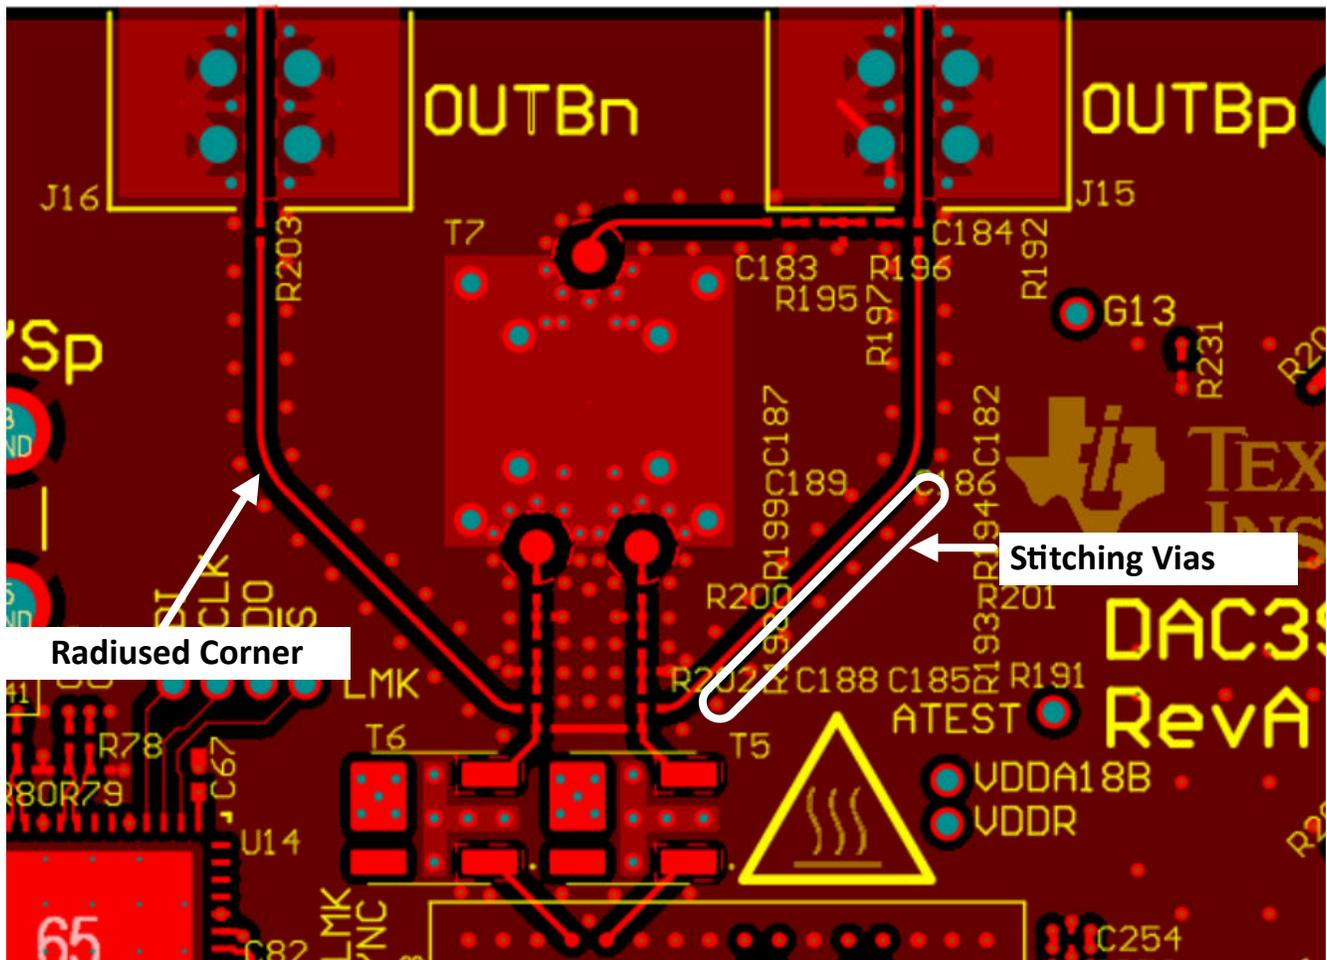

Figure 9-22. Radius Corner and Stitch Vias Next to High_Speed Signal Trace
4. Use smoothly radiused corners and avoid 45- or 90-degree bends to reduce impedance mismatches on all high-speed inputs/outputs for both analog and digital signal traces. See Figure 9-22 as an example.
7. Provide symmetrically located ground tie stitching vias adjacent to any high-speed signal at an appropriate spacing as determined by the maximum frequency the trace transports ($\lambda/4$). See Figure 9-22 as an example.